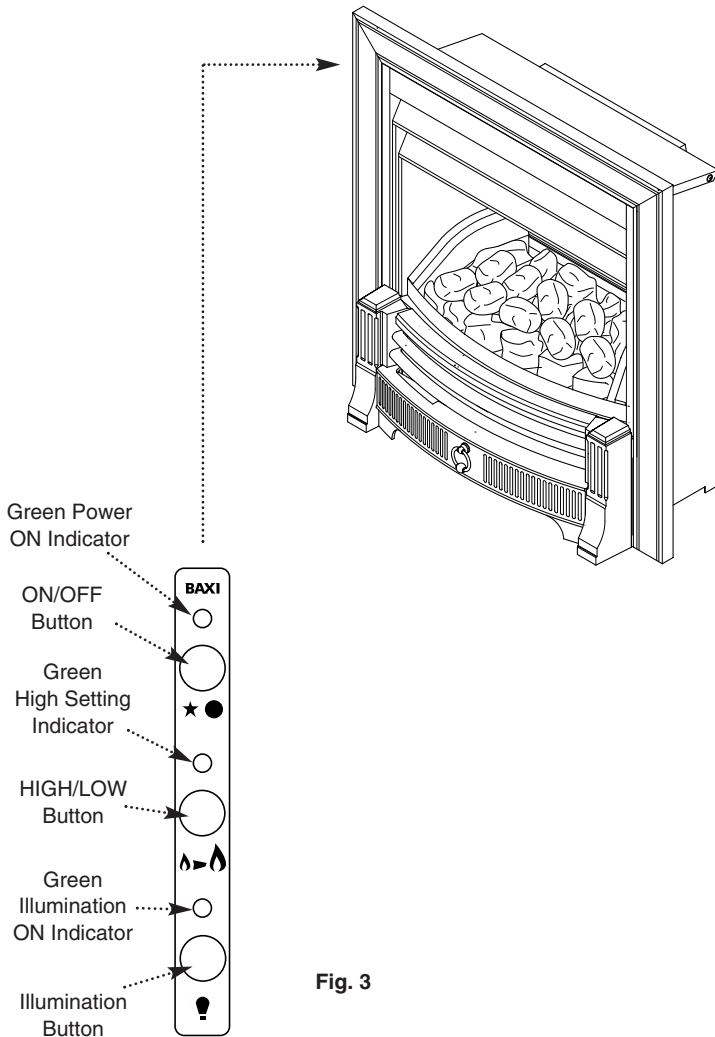

Fig. 3
4.1 To operate the illumination effect (Fig. 3)
4.2 To light the fire (Fig. 3)
4.3 To turn the fire off (Fig. 3)